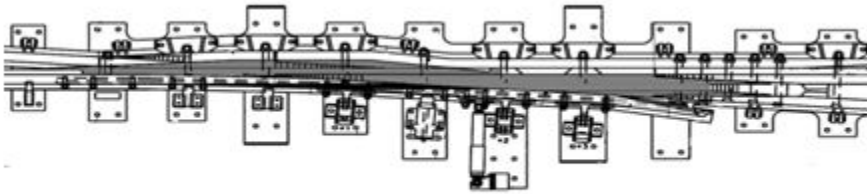

Figure 109M *Manganese Spring Rail Frog*
- Weld only manganese cast portion of frog and rail ends. (See Figure 109M)